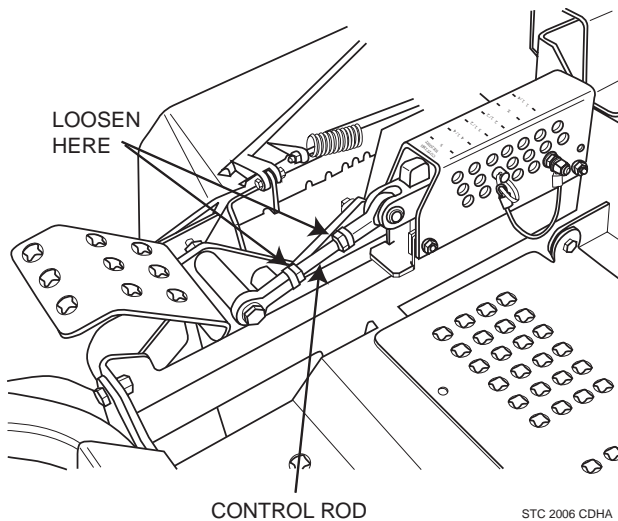
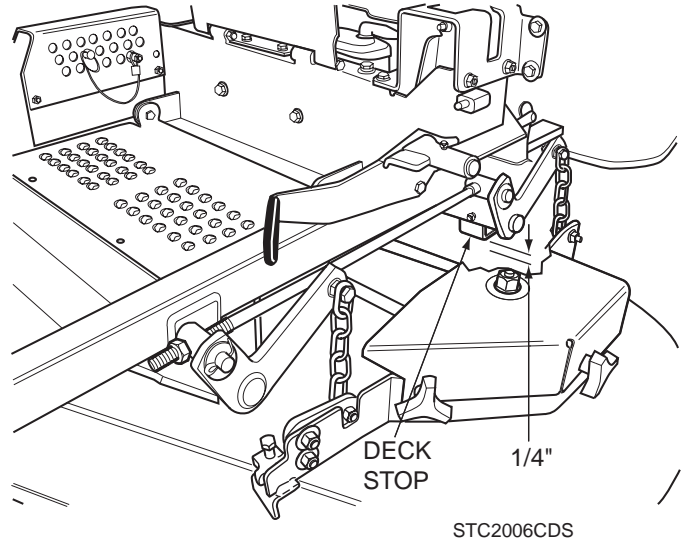

Figure 6-6. Cutter Deck Height Adjustment
Figure 6-7. Cutter Deck Stop
1. Place the cutter deck in the transport position. Loosen the jam nuts on both ends of the deck height control rod. (See Figure 6-6).
2. Turn the control rod (See Figure 6-6) until there is a 1/4" space between the rear deck stop and the top of the cutter deck. (See Figure 6-7). Tighten the jam nuts on the control rod.
4. Check the measurement from the floor to the cutter blade tip. If the measurement is not at 3", an adjustment can be made using the deck height control rod. (See Figure 6-6).